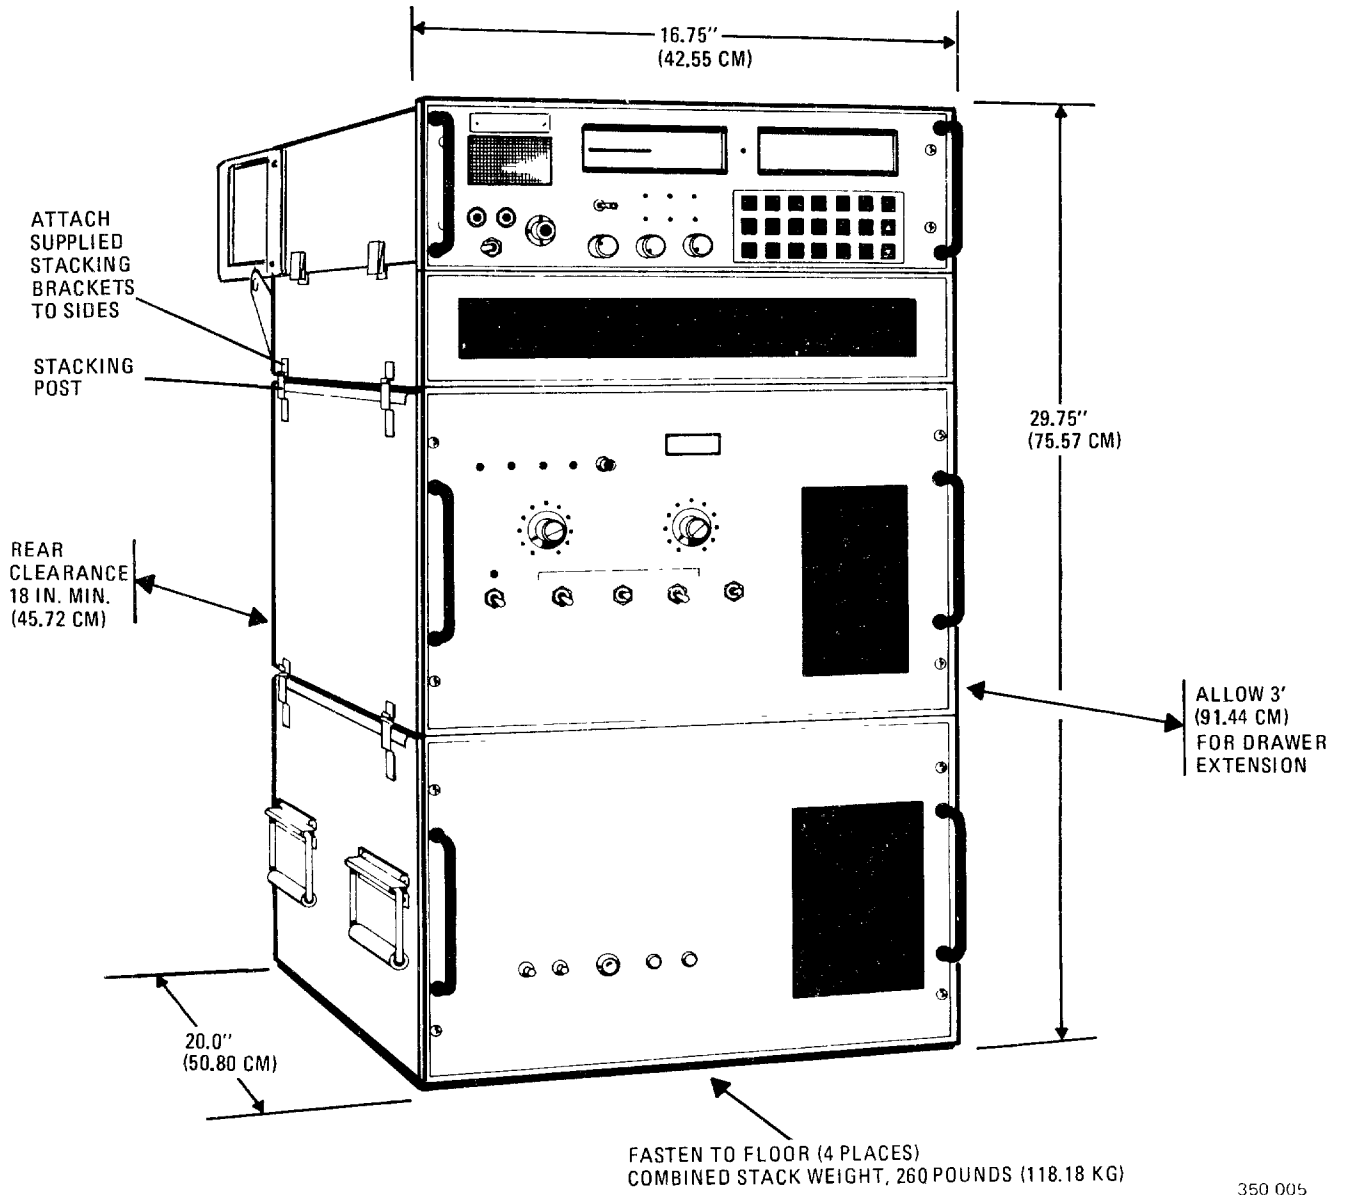

Figure 2-3. Typical Stack Mount Detail
n. Typical 1KW LPA Installation. A typical stack mount 1KW Power Supply installation is shown in figure 2-3.